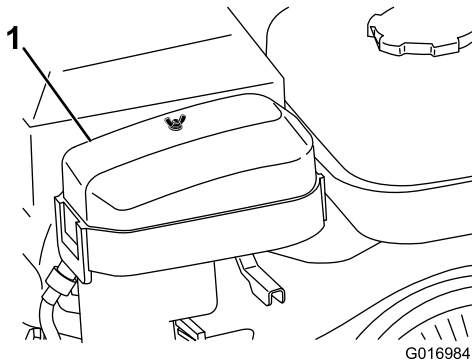

Figure 24
2. Remove the wing nut securing the air-cleaner cover and remove the cover (Figure 24).